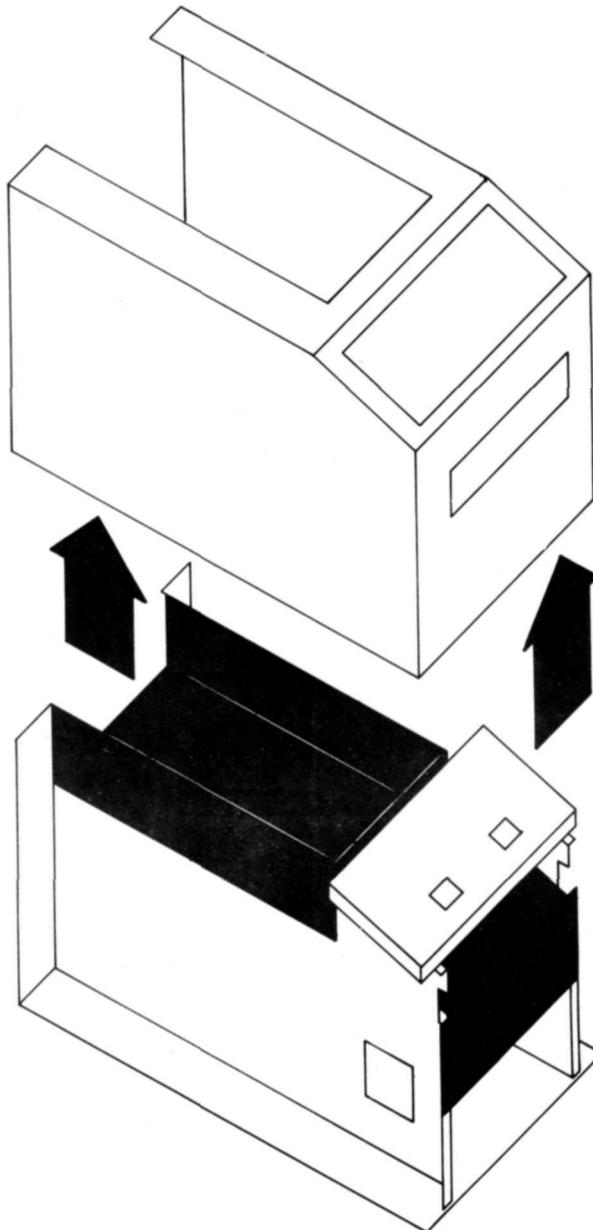

Figure 14. Removing the Housing
- Carefully lift the Card Reader housing up over the bucket and off the chassis as shown in Figure 14.